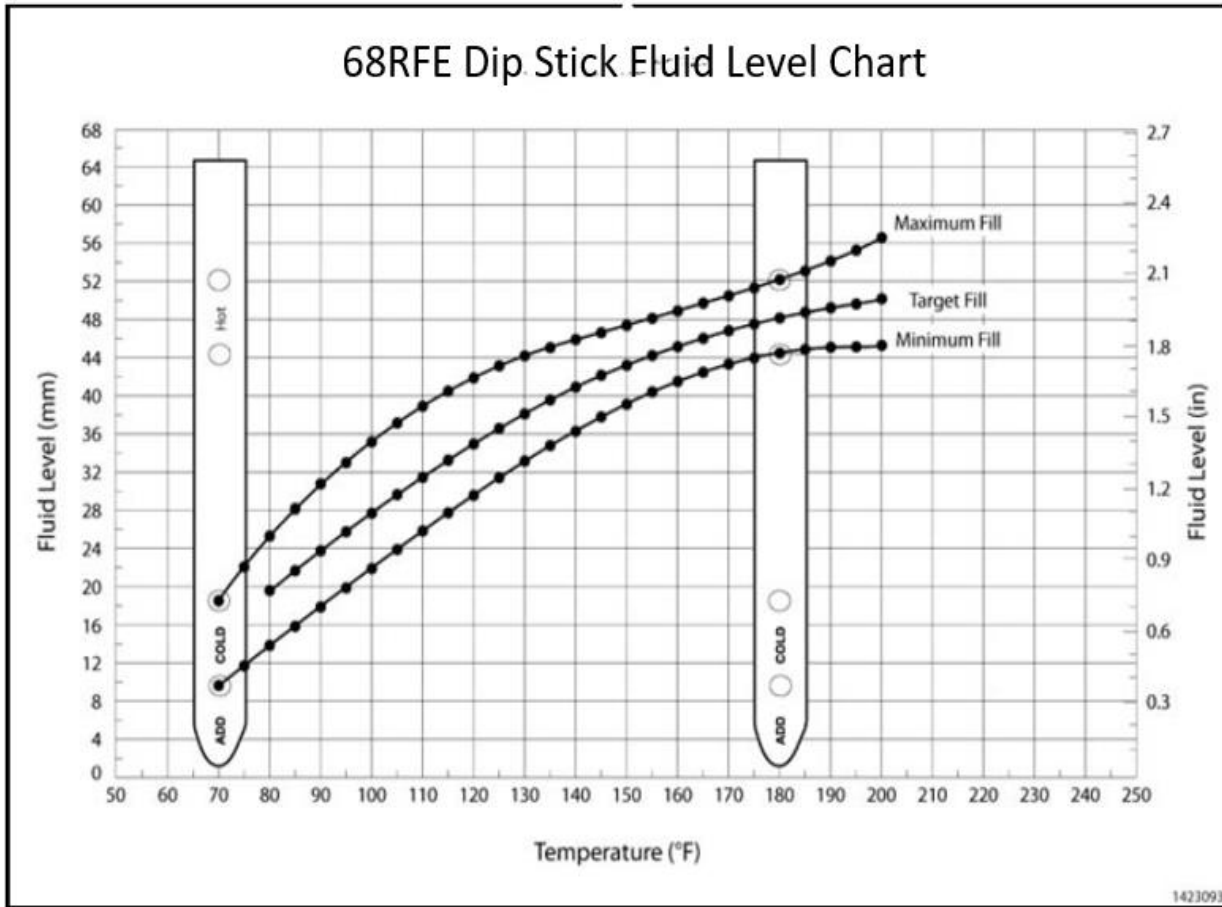

Figure 13 – Fluid Level Chart
30. Start vehicle and allow the transmission to reach operating temperature then check transmission fluid level, adjust the fluid level according to the specified procedure and using the 68RFE dipstick fluid level chart (Figure 13).